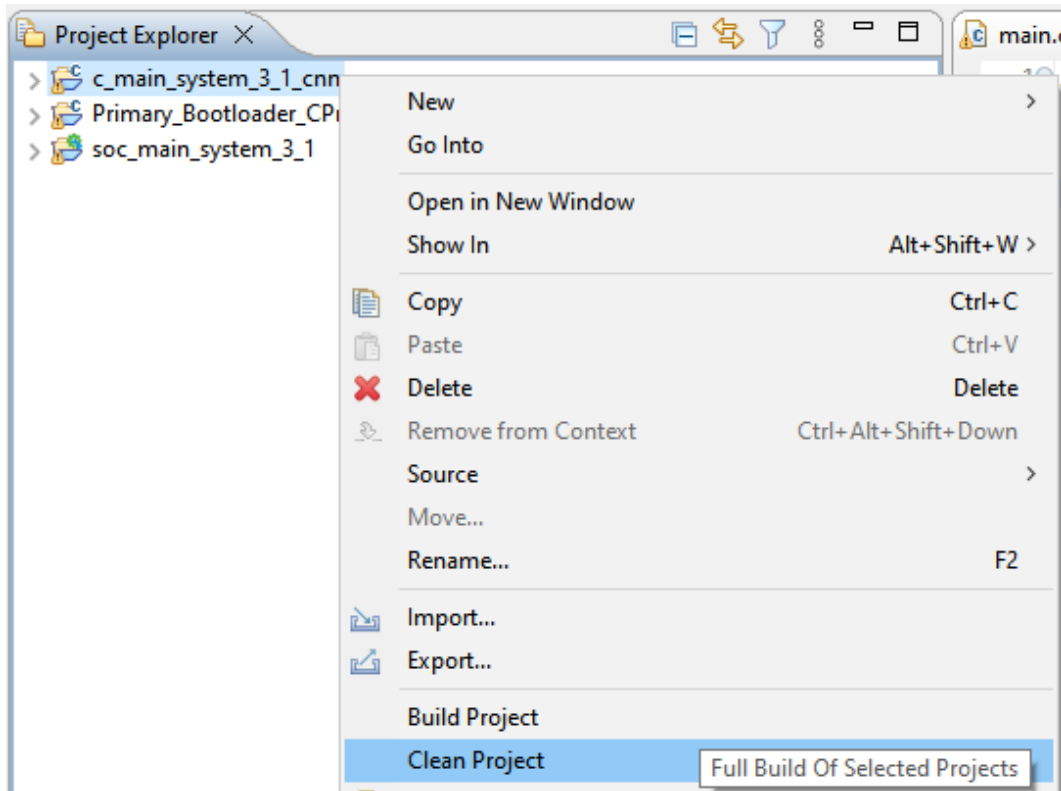

Figure C.22. Clean project Configurations
12. Right-click on the firmware project folder `c_main_system_3_1_cnn` and select the option as shown in Figure C.22 to clean the project before building.